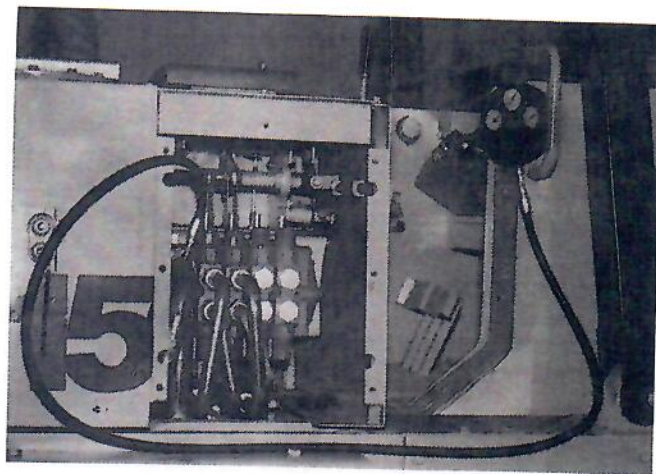

Figure 18
3. See Figure 18 and connect a pressure gauge to the tube.